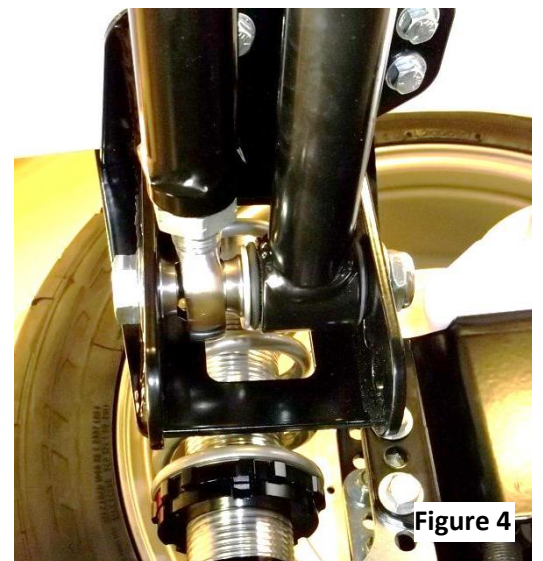

Figure 4
9. Install the panhard bar and panhard bar support rod on the left side frame bracket with the support rod towards the rear of the vehicle using the holes in the center of the adjustment range. The 5/8" x 4 1/4" bolt will be used with a SG104 spacer on each side of the rod end and a flat washer between the spacer and the panhard bar bushing. See **Figure 4**.